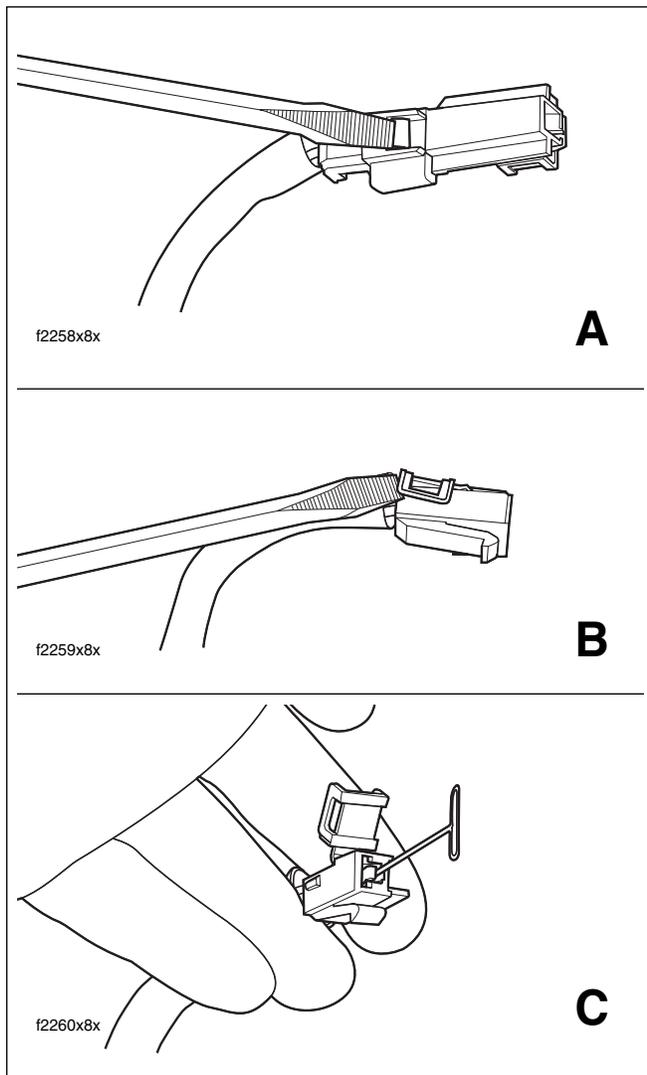

Figure 8-24. Remove Socket Terminal
6. Using small flat blade screwdriver, depress button on pin housing (red wire) side of the connector and pull apart the pin and socket halves. See A of Figure 8-24.
7. Bend back the latch slightly and free one side of secondary lock, then repeat the step to release the other side. Rotate the secondary lock outward on hinge to access terminal in chamber of connector housing. See B of Figure 8-24.
8. On the mating end of the connector, note the tang in the square shaped opening centered next to the terminal. Gently insert the point of a stick pin or large safety pin into the opening between the tang and the chamber wall until it stops. Pivot the end of the pin toward the terminal body to depress the tang. Remove the pin and then pull terminal out wire end of connector housing. See C of Figure 8-24.